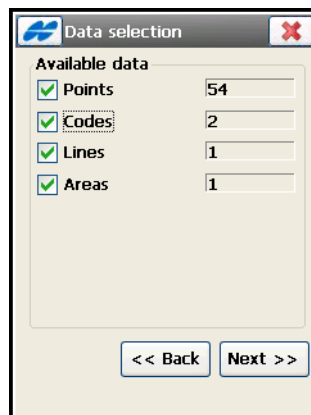

Figure 4-65. Data Selection for ESRI Shape
**On the Data Selection** screen, select a specific data group in the job available to export. For ESRI Shape format Points, Codes, Lines and Areas can be available for selection (Figure 4-65).